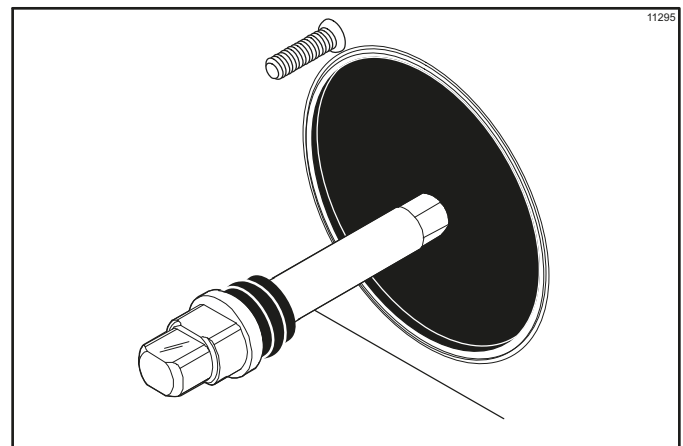

Figure 6-2
5. Insert the beater drive shaft through the rear shell bearing in the freezing cylinder and engage the hex end firmly into the drive coupling. (See Figure 6-2.)